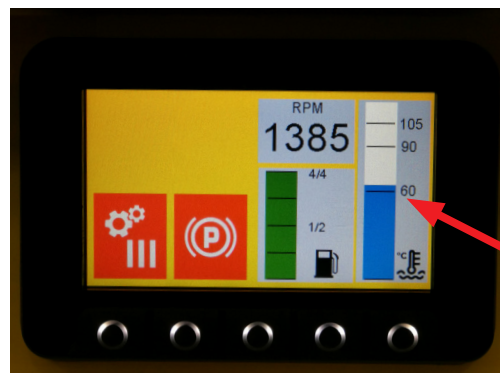

Figure 1: Main menu
2. Bring the RoboMAX to a temperature that is higher than 60°C as in *Figure 1*.
- From the menu shown in *Figure 1*, press the DOWN button twice (see section 6.9.1) to access the forced regeneration menu *Figure 2*, then press the ENTER button for a few seconds (see *Figure 2*).